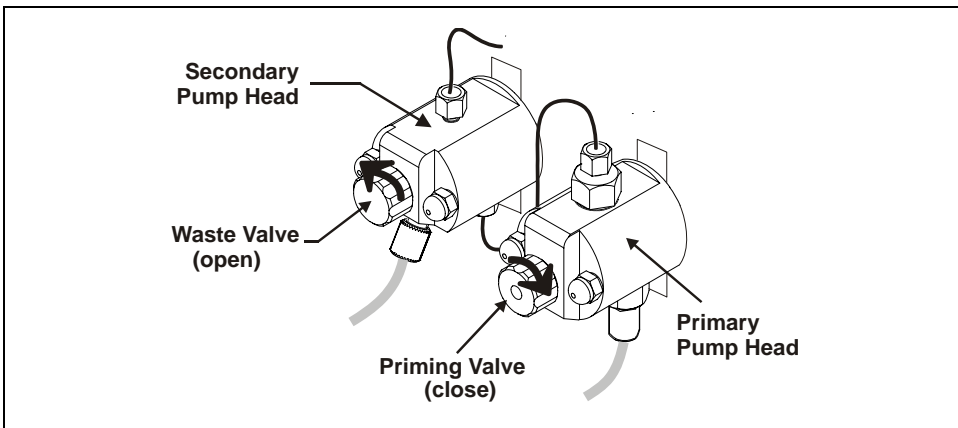

Figure 5-32. Priming the Pump
1. Check that the priming valve on the primary pump head is closed (see Figure 5-32).
2. Open the waste valve on the secondary pump head by turning the knob one-quarter to one-half turn counterclockwise (see Figure 5-32). Opening the valve directs the eluent flow path to waste and eliminates backpressure.